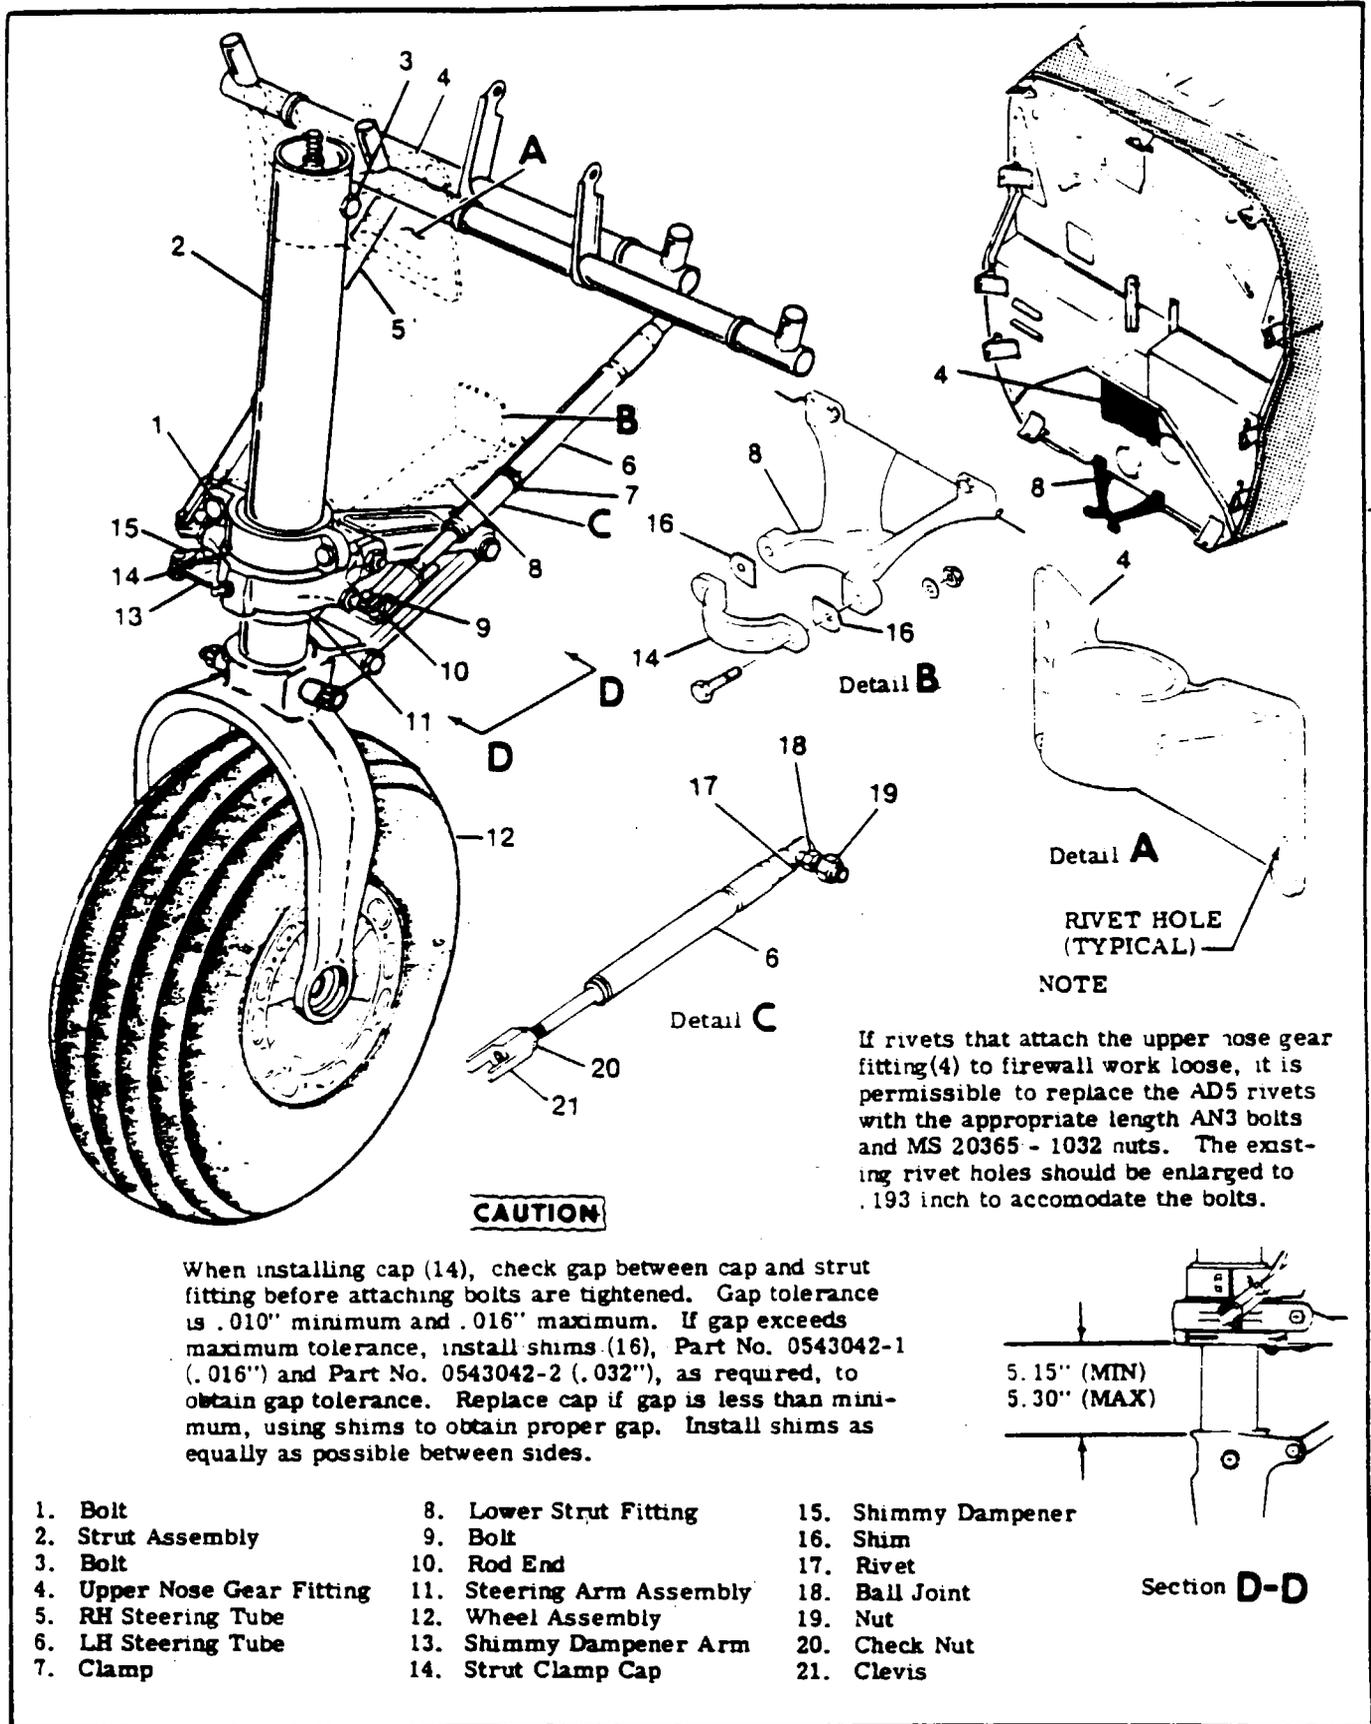

Figure 5-7. Nose Gear Installation
- 5-31. **NOSE GEAR.** (See figure 5-7.)
5-34. NOSE GEAR REMOVAL. (See figure 5-7.)
5-35. NOSE GEAR INSTALLATION. (See figure 5-7.)
- c. Install shims and strut clamp cap attaching strut to lower strut fitting, observing the CAUTION in figure 5-7.
- 5-38. **NOSE WHEEL REMOVAL.** (See figure 5-7.)